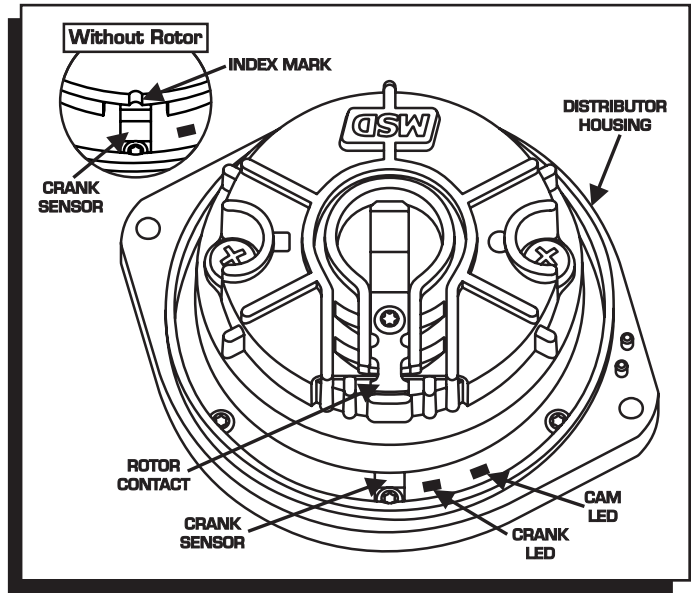

Figure 4 Aligning the Distributor
6. Align the rotor contact (*index mark if using blank cap, PN 84323*) to the crankshaft position sensor as shown in Figure 4. Install the distributor making sure it fully seats with the rotor pointing toward your desired direction of the #1 spark plug wire (*not applicable if using a 6015MSD/60153MSD or other COP/CNP system*). If the distributor will not fully seat with the rotor pointing in the desired position, you may need to rotate the oil pump shaft until the rotor lines up and the distributor fully seats.
8. With power going to the distributor make sure the rotor contact or index mark is aligned with the crank sensor and both LEDs are On (Figure 4). Consult Table 3 before proceeding.